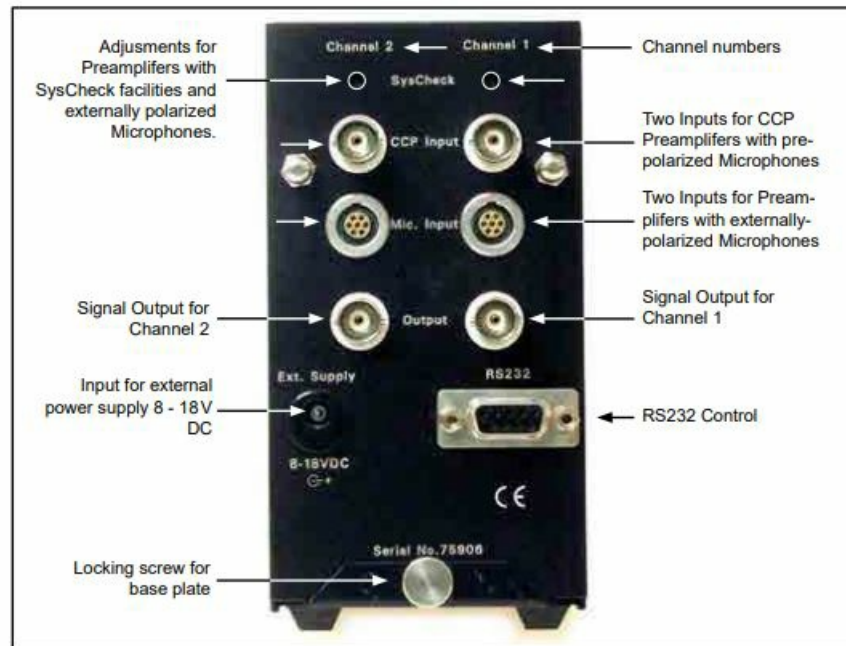

Fig. 2.2 Rear-panel details of the Power Module Type 12AQ
- Rear-panel details are shown in Fig. 2.2.
- The battery compartment is contained within the cabinet of the Type 12AQ. To gain access to this, first remove the knurled locking screw (see Fig. 2.2) and slide the baseplate off.